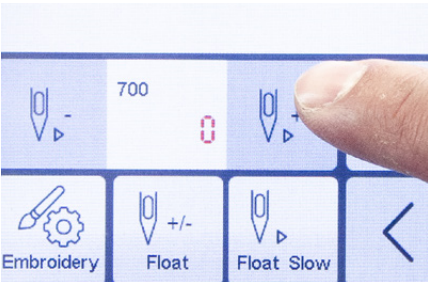

Figure 98
2. When you enter stitch floating mode, two needle icons will appear on the screen. Tap the needle icon **with the minus symbol to float backward**. Tap the needle icon **with the plus symbol to float forward**. **See Figure 98.**